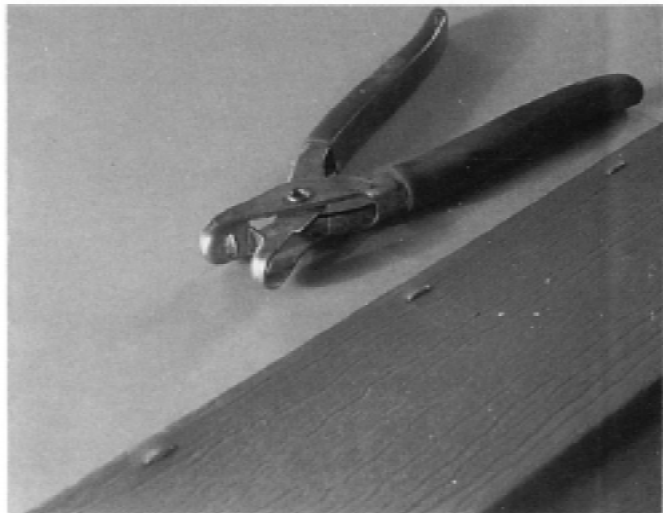

FIG. 1 Crimper and Crimps on Siding
3.2.3 *crimp*—small protrusions, typically approximately ½ in. (12.7 mm) long, ¼ in. (3.2 mm) wide, and projecting ¼ in. (3.2 mm) formed by a crimper (snaplock punch). (See Fig. 1.)
3.2.4 *crimper*—a special hand tool designed to form crimps (snaplock ears) intended to hold partial panels in place. (See Fig. 1.)
3.2.10 *snaplock ears*—See *crimp* and Fig. 1.
3.2.11 *snaplock punch*—See *crimper* and Fig. 1.